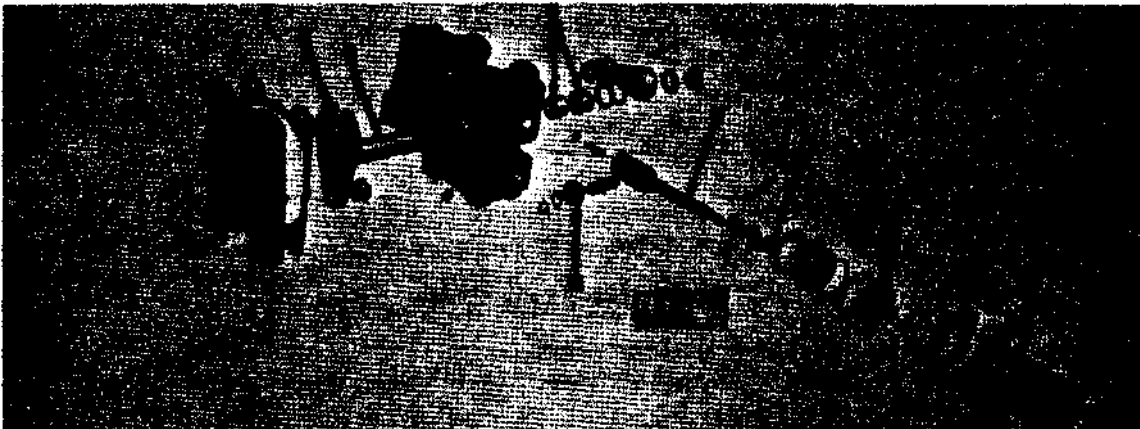

Figure 175. Serviceability standard points of measurements for steering gear assembly
(1) Install steering column (13, fig. 175. 1) in vehicle to proper lateral position and connect universal joint of lower steering column to splined end of upper steering column and secure with capscrew (16), washer (15), and nut (14).
(2) Install two bracket assemblies by reversing procedures given in paragraph 128.3 a. (4) above.
(3) Position bushing (5) in two bracket assemblies (6) and install steering column (8) in bracket assemblies (6) and secure with capscrew (7). Torque capscrew (7) to specified torque.